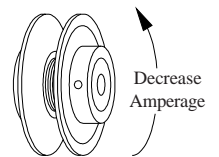

Fig. 9
- **Adjust pulley if necessary.** If amperage draw is less than motor rating, turn off electrical power and remove pad frame. Unplug motor inside cooler, this will protect you from someone turning on unit while you are working inside. This should be done for your safety. Adjust pulley to a larger diameter and readjust belt tension, plug motor in, install pad frame, and retest amperage draw. Repeat this process until correct amperage draw is attained. Increasing motor pulley diameter increases amperage draw. Decreasing motor pulley diameter decreases amperage draw (see Fig. 9).